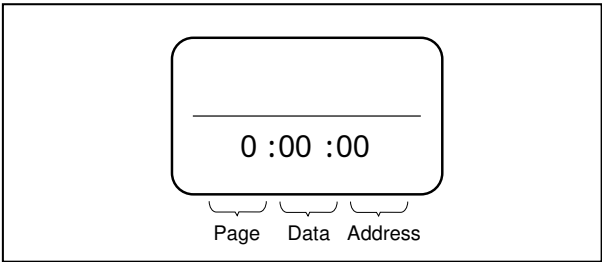

Fig. 5-2-1
- 3) Turn on the power with the POWER switch of the unit. If it has been properly connected, the LCD on the adjusting remote commander will display as shown in Fig. 5-2-1.